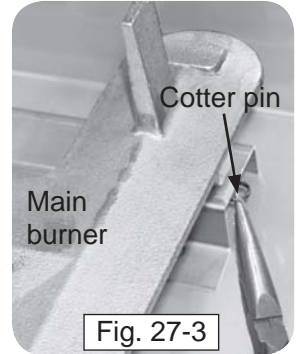

Fig. 27-3
3. Remove the cotter pin from the left or right rear burner anchoring peg by pulling it straight out of the cotter pin hole using fingers or needle-nose pliers (Fig. 27-3).